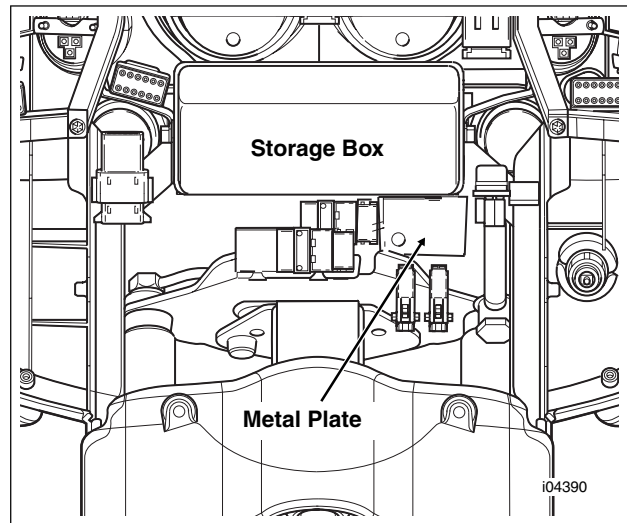

Figure 8-7. Locate Metal Mounting Plate (FLHTP)
- c. Turn the handlebar to the right and remove the outer fairing screw (5) reaching in below the left side of the fairing cap. Turn the handlebar to the left and remove the fairing screw (6) below the right side of the fairing cap.
- a. See Figure 8-7. Locate the metal plate on which the power supply will be mounted. Remove the black plastic wire retainer (Christmas Tree) from the hole in the metal plate.